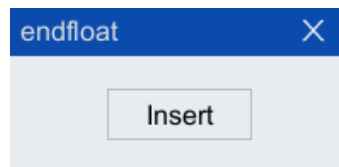

Figure 5-8 Insert command interface
Step2. Click [endfloat] in the selection menu, and the configuration interface shown in Figure 5-8 will pop up.